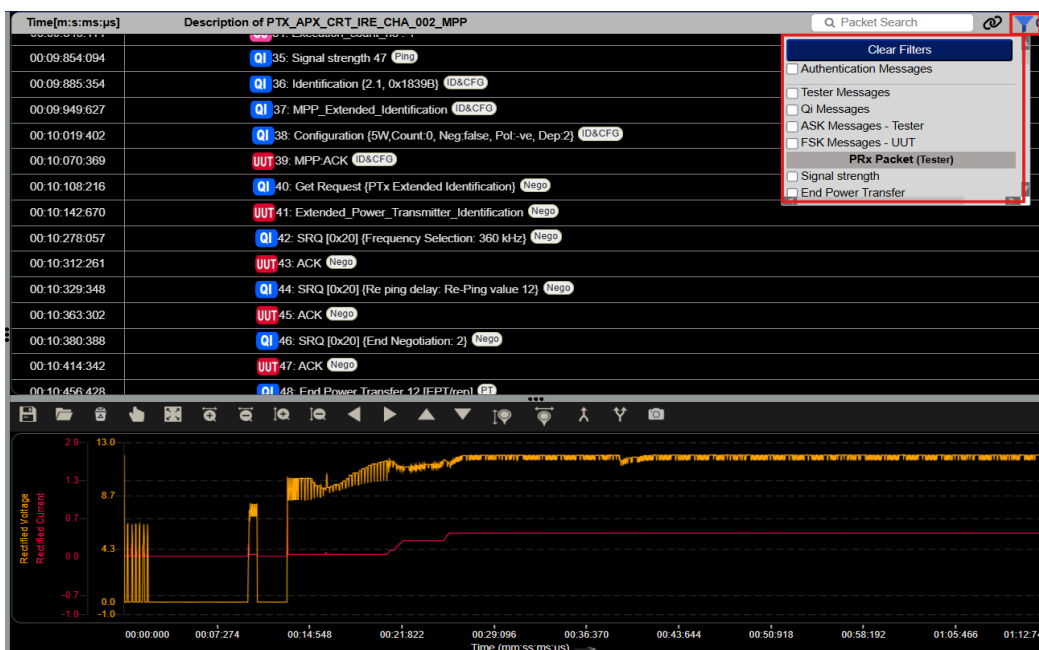

FIGURE 8.121: CLICK ON FILTER ICON
2. Click on the filter icon at the top right of the screen as shown in Figure 8.121 below.